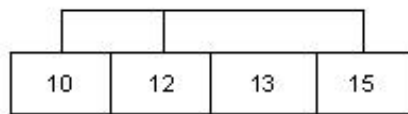

Figure 5 – Configuration 5
- 1.16 Perform a continuity check at the PAM side (top) of the terminal rail, to verify the following configuration (Figure 5):